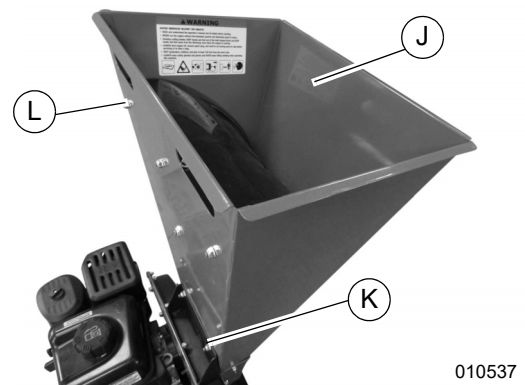

Figure 2-7. Securing Hammermill Housing/Shredder Hopper Assembly
6. See Figure 2-7. Secure hammermill housing/shredder hopper assembly (J) with nine 5/16-18 flange locknuts (K) using a 1/2" wrench.
7. Install the shredder hopper guard and bracket assembly with three 1/4-20 flange locknuts (L) using a 7/16" wrench.